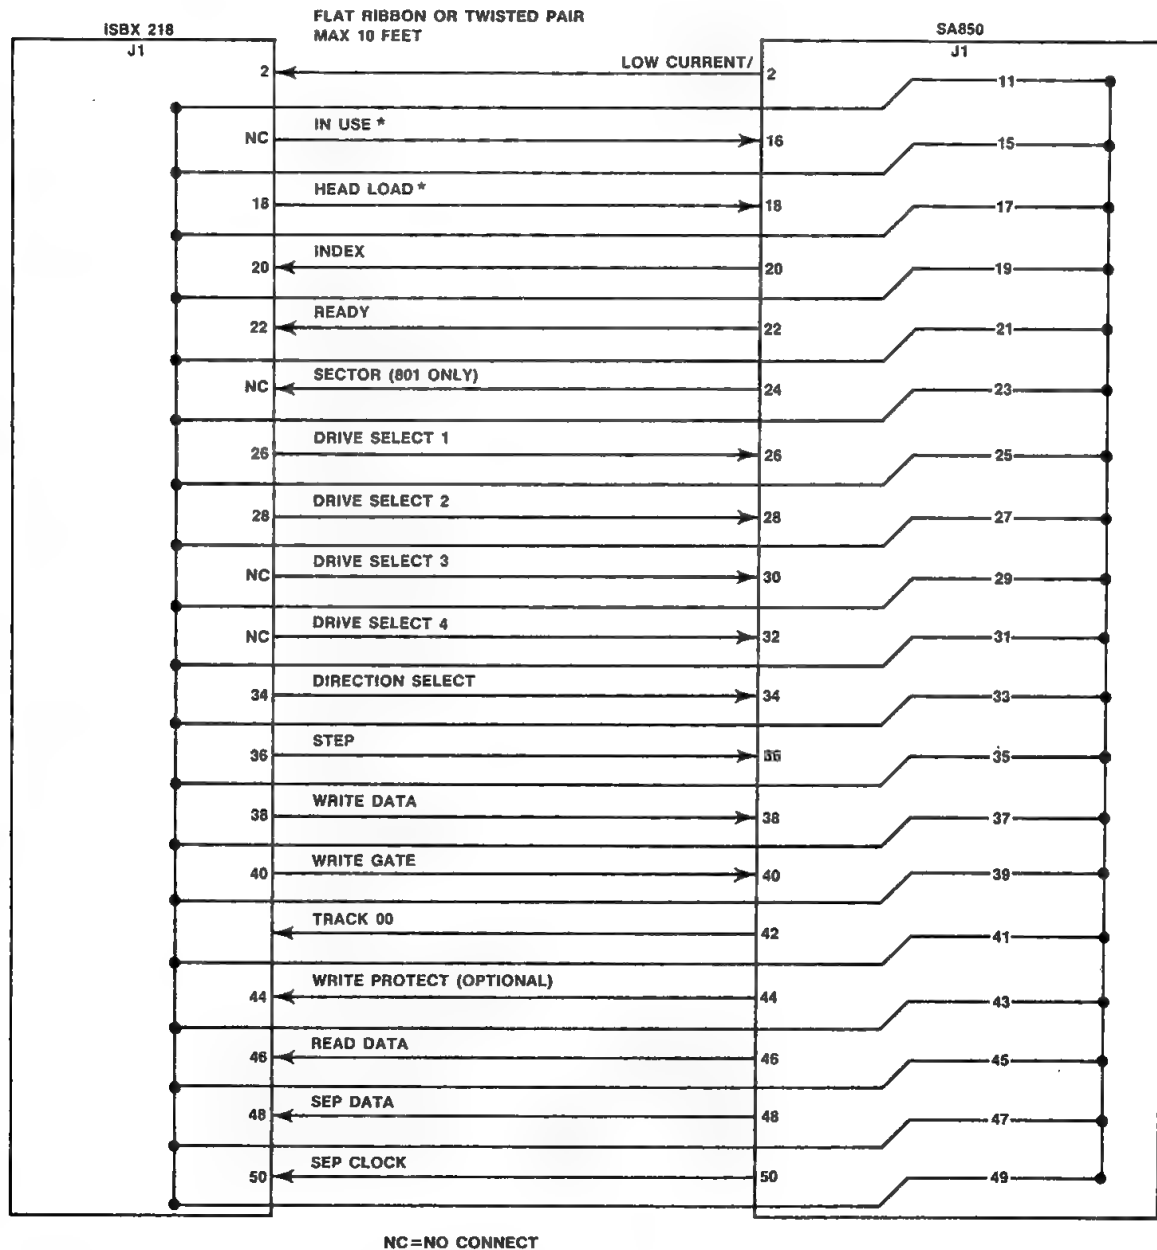

Figure A-4. Diskette Drive Interface Connector Schematic
1. Using an 18-inch, 50-conductor (28AWG stranded) flat cable (3M "Scotchflex" P/N 3365/50), with an interface mating connector (3M P/N 3425-0000) on one end and a drive mating connector (P1) on the other end (see iSBX 218 Hardware Reference Manual, Figures A-4 and A-5), install the drive mating connector P1 on the floppy disk drive.